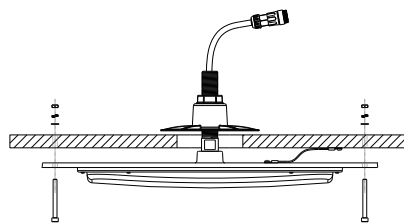

Figure 4
4. Lock the safety rope to the ceiling, assemble the installation plate to the aluminum pipe, then install led fixture. (Figure 4)